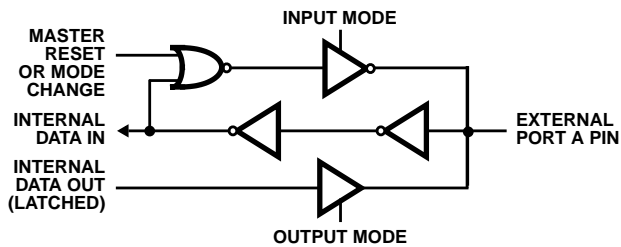

FIGURE 2A. PORT A BUS-HOLD CONFIGURATION
**Port A** One 8-bit data output latch/buffer and one 8-bit data input latch. Both "pull-up" and "pull-down" bus-hold devices are present on Port A. See Figure 2A.